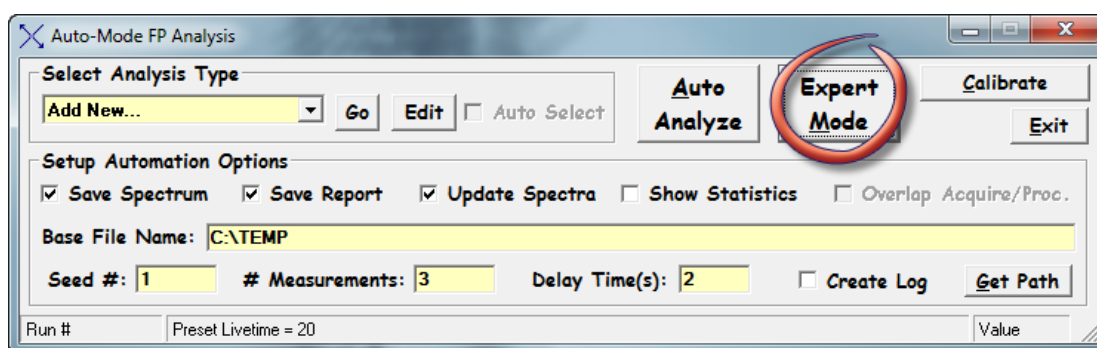

Figure 3. Auto-Mode FP Analysis Panel. Select the “Expert Mode” button. Ensure the “Update Spectra” option is checked (on).
3. From the Auto-Mode FP Analysis window, click **Expert Mode** (Fig. 3 below). This will show the contents of the “Master.tfr” file (see section 4.1 of the “XRS-FP Software Guide” for additional information on loading the software). Ensure the “Update Spectra” option is checked (on) (Fig. 3).